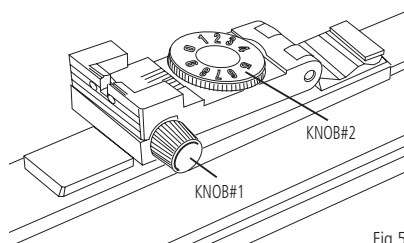

Fig 5
- If the shot is deflected to the left of the target, turn the KNOB#1 clockwise. (Fig. 5)
- If the shot is deflected to the right of the target, turn the KNOB#1 counter-clockwise. (Fig. 5)
- If the shot is too high, turn KNOB#2 clockwise. (Fig. 5)
- If the shot is too low, turn KNOB#2 screw counter-clockwise. (Fig. 5)